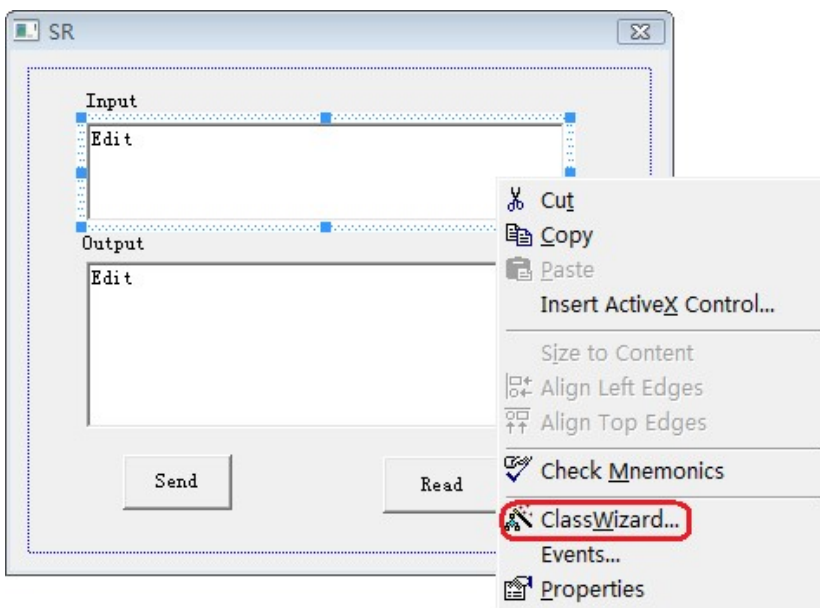
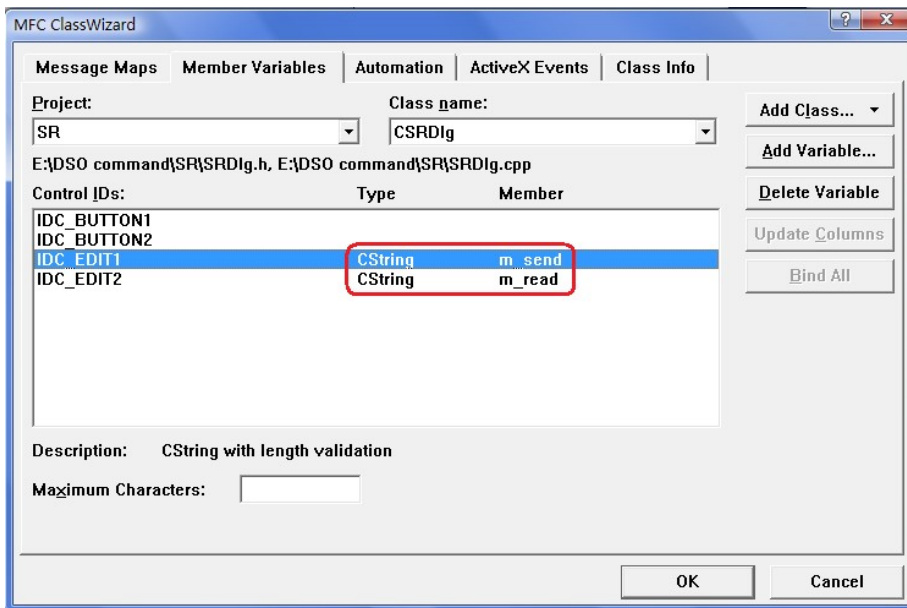

Figure 4-1-5 42
Figure 4-1-6
(1) Add two Static Text controls respectively named as Input and Output.
(2) Add two Edit controls, and then add two variables--m_send and m_read to them respectively. See figure 4-1-5 and figure 4-1-6.